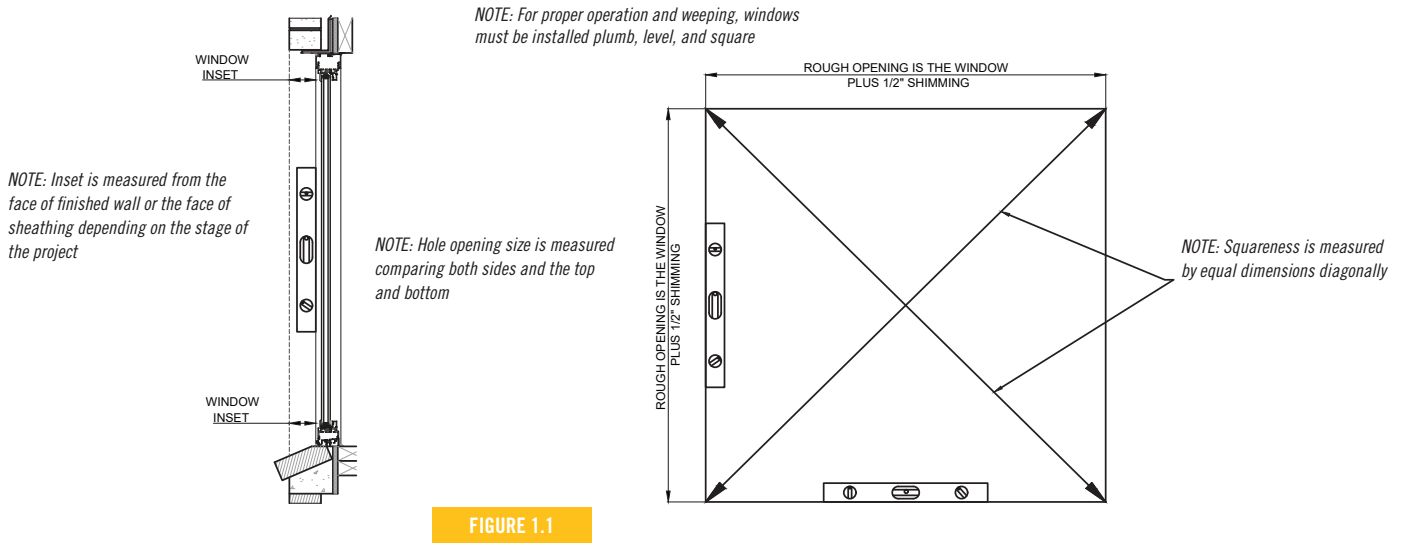

FIGURE 1.1
- Identify any high points on the sill openings. Using a level and string line, follow *Figure 1.1* to find any out of square or out of level places, as this will be important when installation begins. Any damage to the sill or opening structure will need to be fixed before installation can begin.
- Using the architectural drawings or shop drawings, establish a window face line at the head, jambs, and sill. This sets the inset distance into the wall location from the exterior wall face. See *Figure 1.1*.
- Line the window up in the prepared opening, shimming as necessary. See *Figure 1.1*.